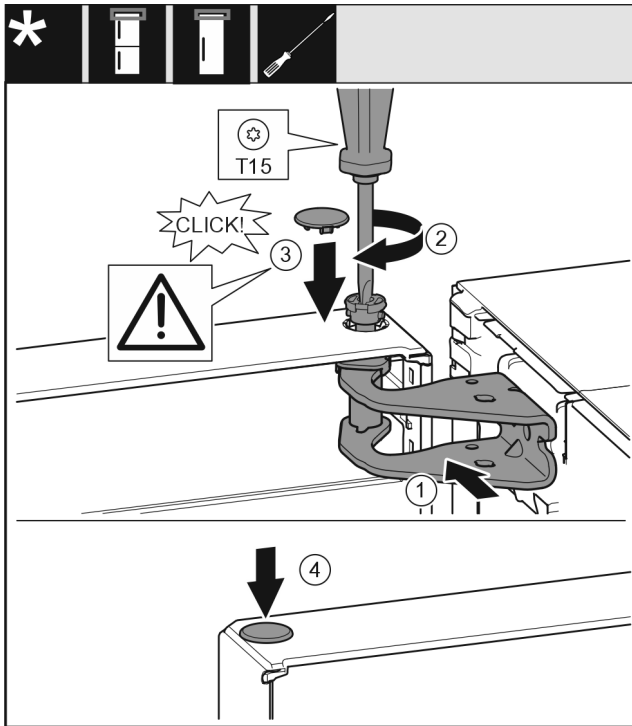

Fig. 22
- Align the top of the door with opening in the bearing bracket. Fig. 22 (1)
- Insert the pin Fig. 22 (2) and tighten it with the screwdriver.
- Mount the safety cover Fig. 22 (3) to protect the door: Insert the safety cover and check whether it is positioned on the door. If so, insert the pin completely.
- Insert the plug. Fig. 22 (4)